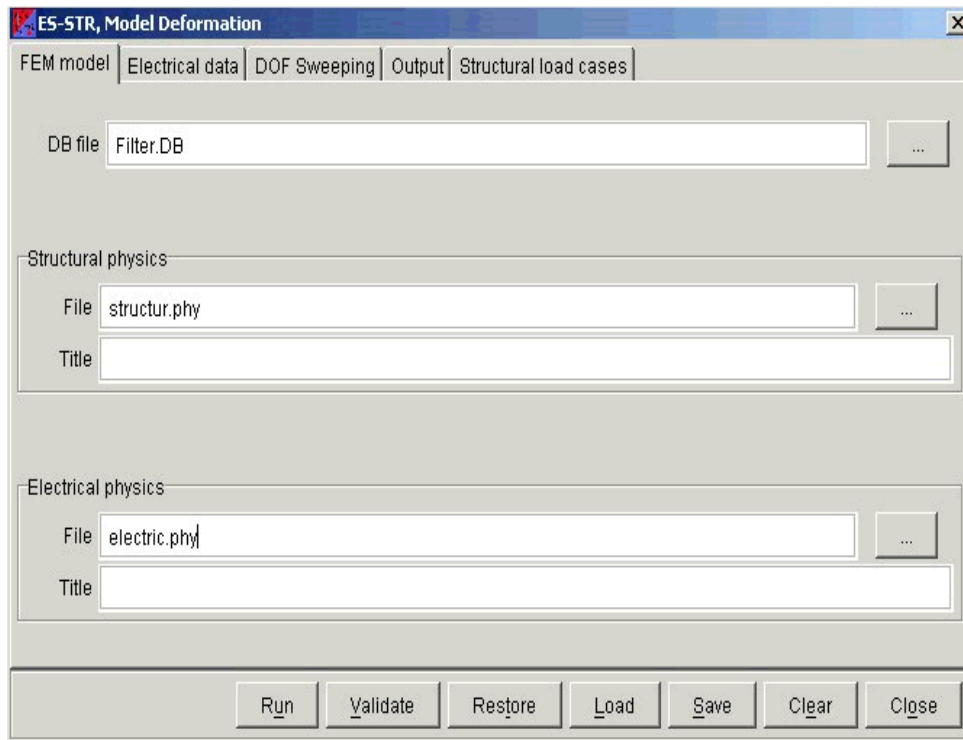

Figure 113: **FEM model** tab
- In the **FEM Model** tab, set the ANSYS related information, as shown in (Figure 113).